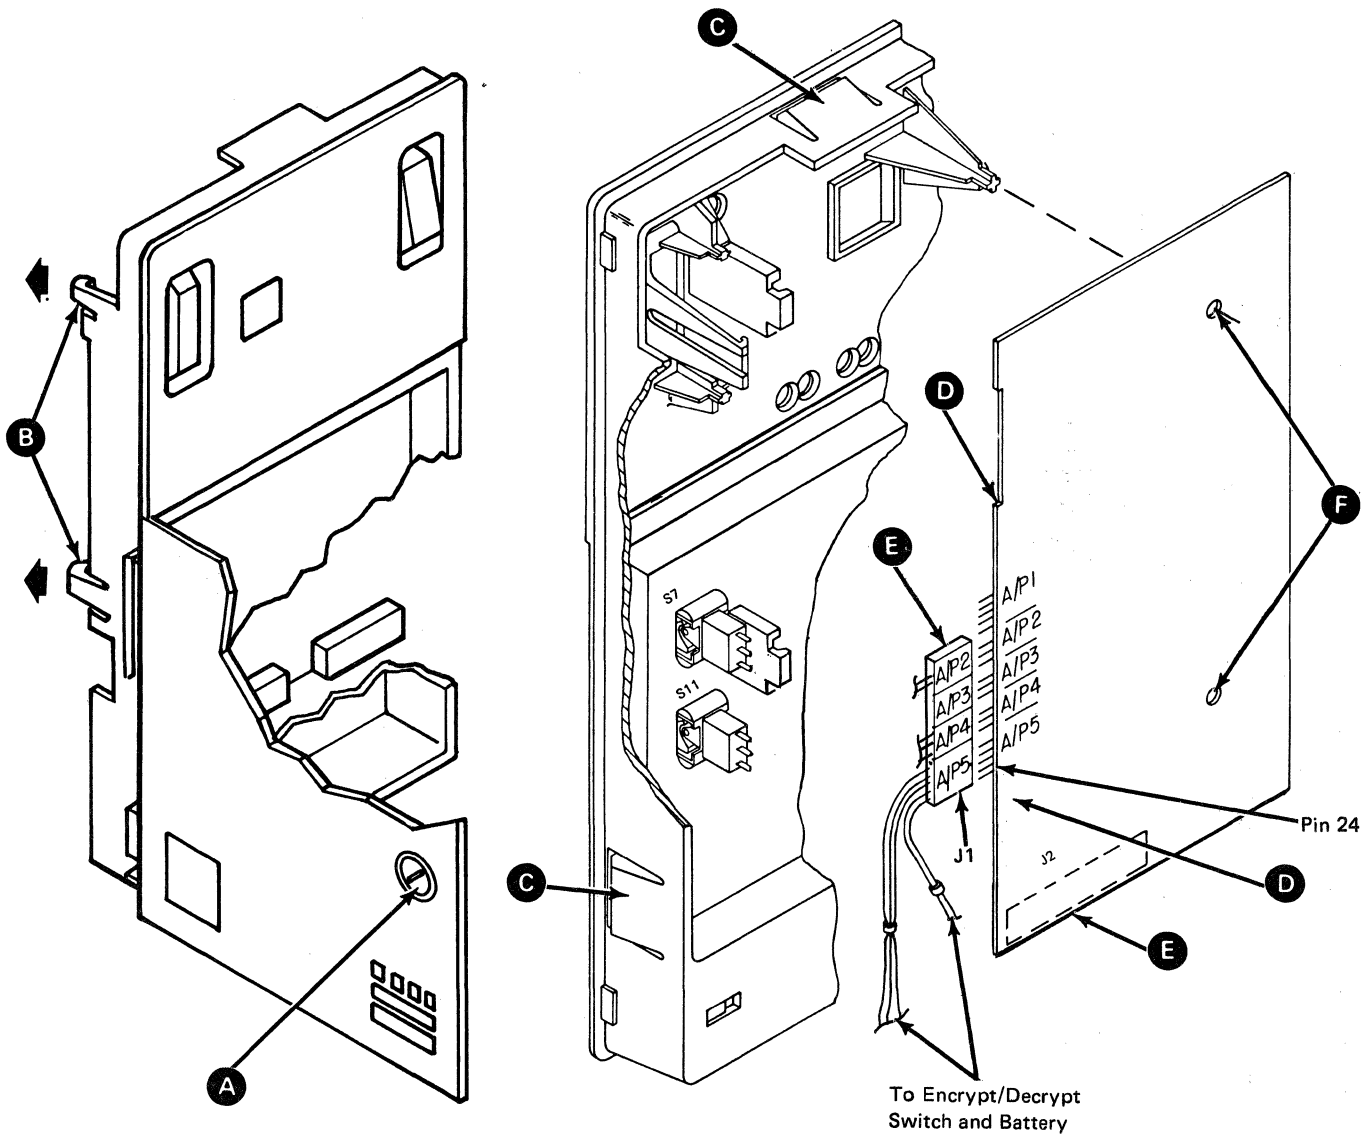

Figure 4-11. Operator Panel/Indicator Card
4.10. Operator Panel/Indicator Card, Removal and Replacement (Figure 4-11)